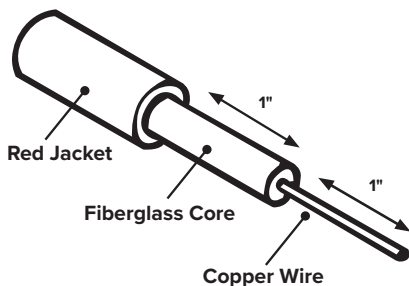

Fig. 1
2. Once jacket is removed, use pipe cutter again to score a mark around fiberglass core approximately 1" from edge of jacket. Use sharp knife to carefully strip away 1" of fiberglass core closest to rod end to expose copper wire. Be careful not to damage wire. The 1" portion of rod closest to jacket will remain intact (Fig.1).